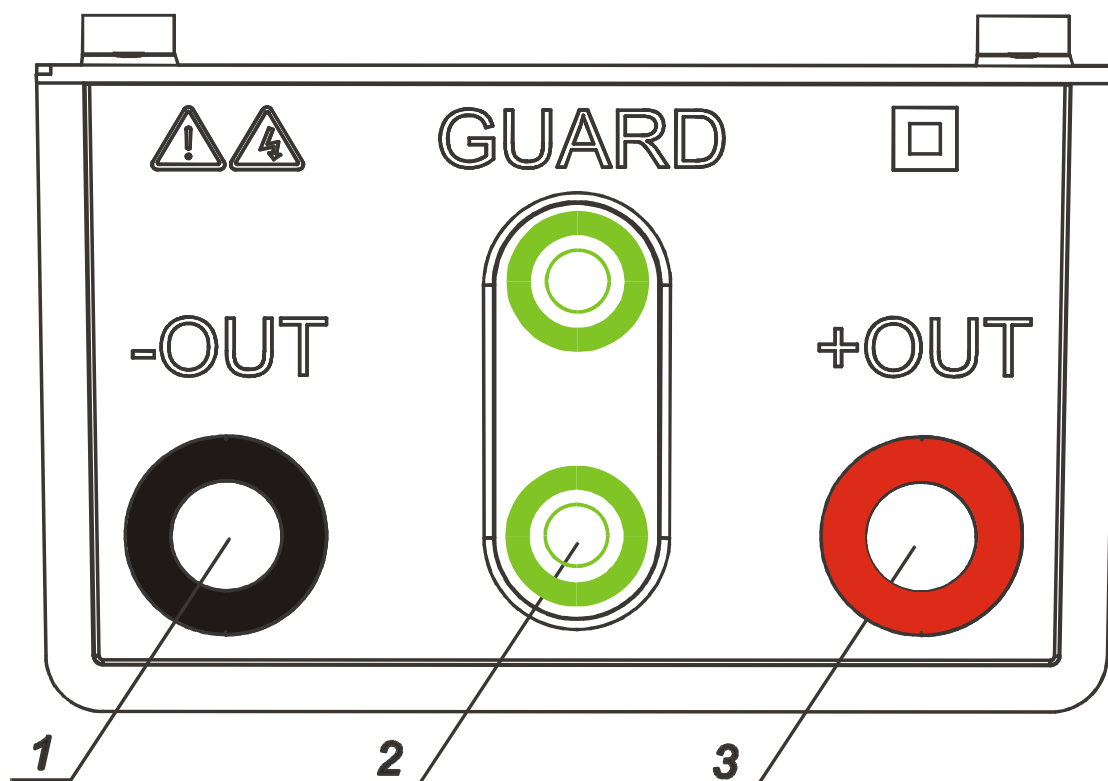

Fig. 2. Test leads connector
- Connection of test leads to four banana safety sockets (**Fig. 2**),